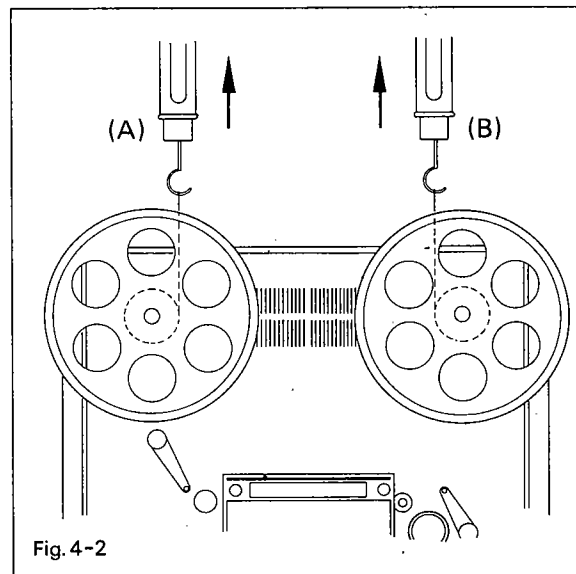

Fig. 4-2
- 1) Set the Reel Size Select Switch to Large and mount on the left turntable a 7" small-hub reel with a piece of string attached to it, as shown in Fig. 4-2(A).
- 2) Set the deck in Play mode and pull the spring balance gently in the arrow direction indicated in Fig. 4-2(A) and read the figures indicated by the balance.
- 2) Mount on the right turntable a 7" small-hub reel with a piece of string attached to it as shown Fig. 4-2(A) to check REW back tension. If you discover a considerable difference between the torques of the FF and the REW, re-adjust the R-2 to minimize the difference between them.
- 1) Set the Reel Size Select Switch to Small and mount on the right turntable a 7" reel, described on f-1-1, and adjust R-1 to obtain 140g as shown Fig. 4-2(B).
- 1) Mount on the left turntable a 7" small-hub reel with a piece of string to it, as shown in Fig. 4-2(A).
in the arrow direction indicated in Fig. 4-2, and read the pressure indicated by the balance when the left turntable begins to turn.